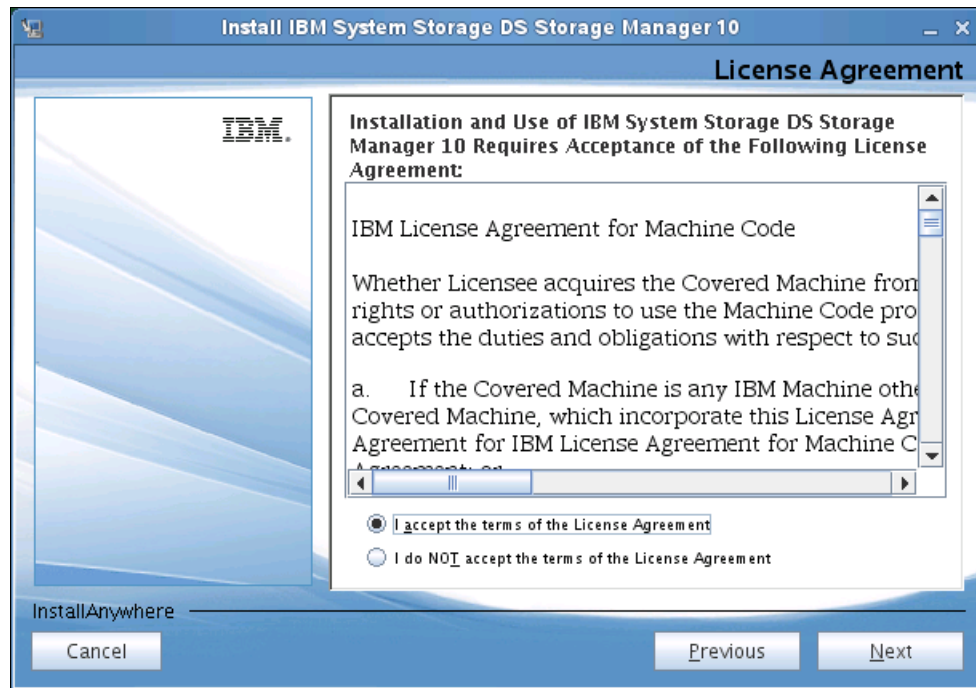

Figure 4-17 License agreement
6. Read and accept the license agreement. Click **Next**, as shown in Figure 4-17.